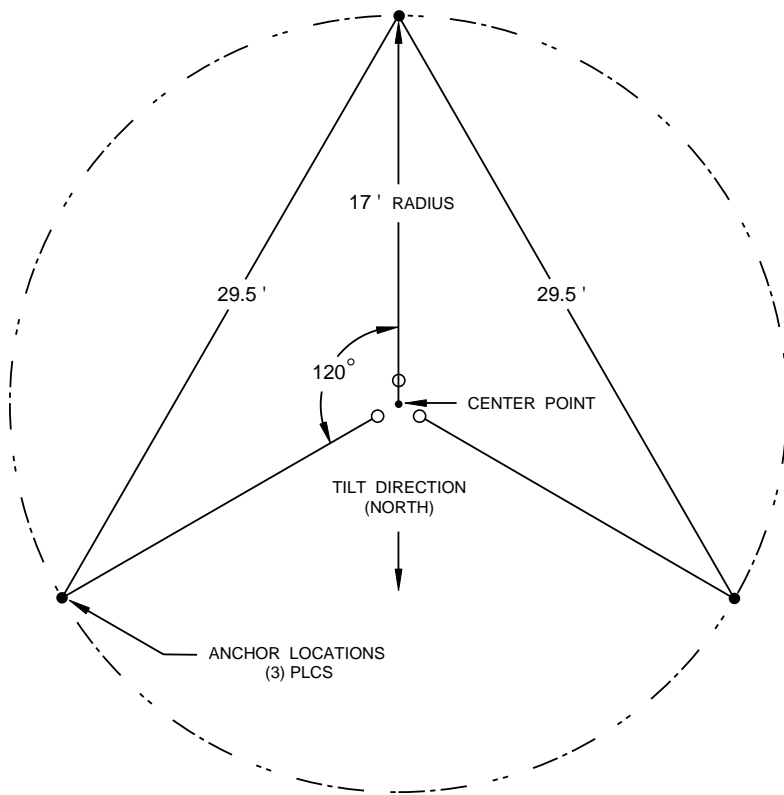

FIGURE 2.1-2. Top View of Base and Guy Anchor Layout
2. Drive a stake where the base of the tower will be located. Attach a line to the stake and scribe a circle with a 17 foot radius. Drive a stake on the scribed line opposite the direction the tower will hinge for the first guy anchor location (Figure 2.1-2).
On level ground, lay out the remaining two anchor locations by measuring 29.5 feet from the first anchor to the scribed line on either side of the base stake (Figure 2.1-2).